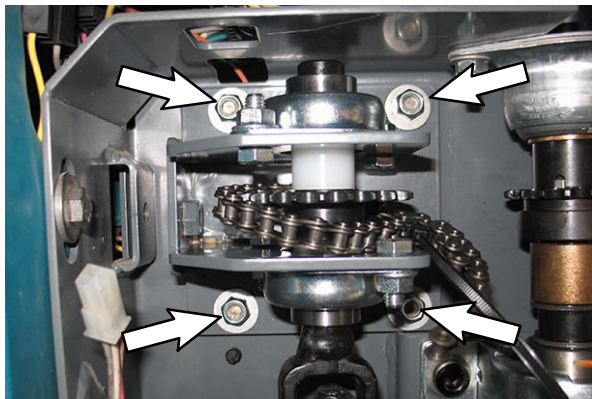

FIG. 25
26. Use four M8 hex nuts and four flat washers to install the steering bearing mount bracket onto the steering support channel. Do not completely tighten hardware. Hardware is tightened during later adjustment. (Fig. 25)